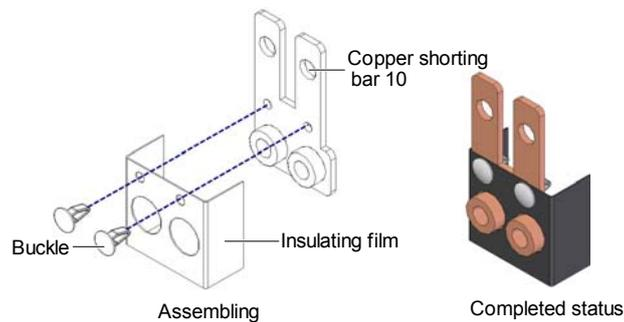

Figure 2-18 Pasting the insulating film to the copper shorting bar 10
5. As shown in Figure 2-18, paste the insulating film (accessory) on the copper shorting bar 10, and insert the buckles into the corresponding holes on the copper shorting bar 10.
6. As shown in Figure 2-18, paste the insulating film (accessory) on the copper shorting bar 10, and insert the buckles into the corresponding holes on the copper shorting bar 10.